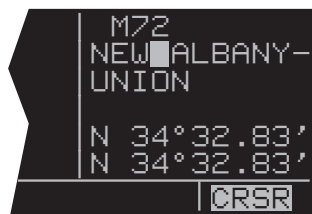

Figure 3-82
- Rotate the right outer knob one step clockwise to locate the cursor over the fourth character position (figure 3-82).